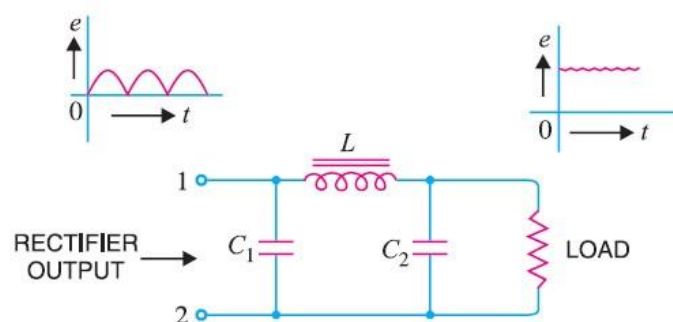

Fig. 6.43
**(iii) Capacitor input filter or  $\pi$ -filter:** Fig. 6.43 shows a typical capacitor input filter or \*\* $\pi$ -filter. It consists of a filter capacitor  $C_1$  connected across the rectifier output, a choke  $L$  in series and